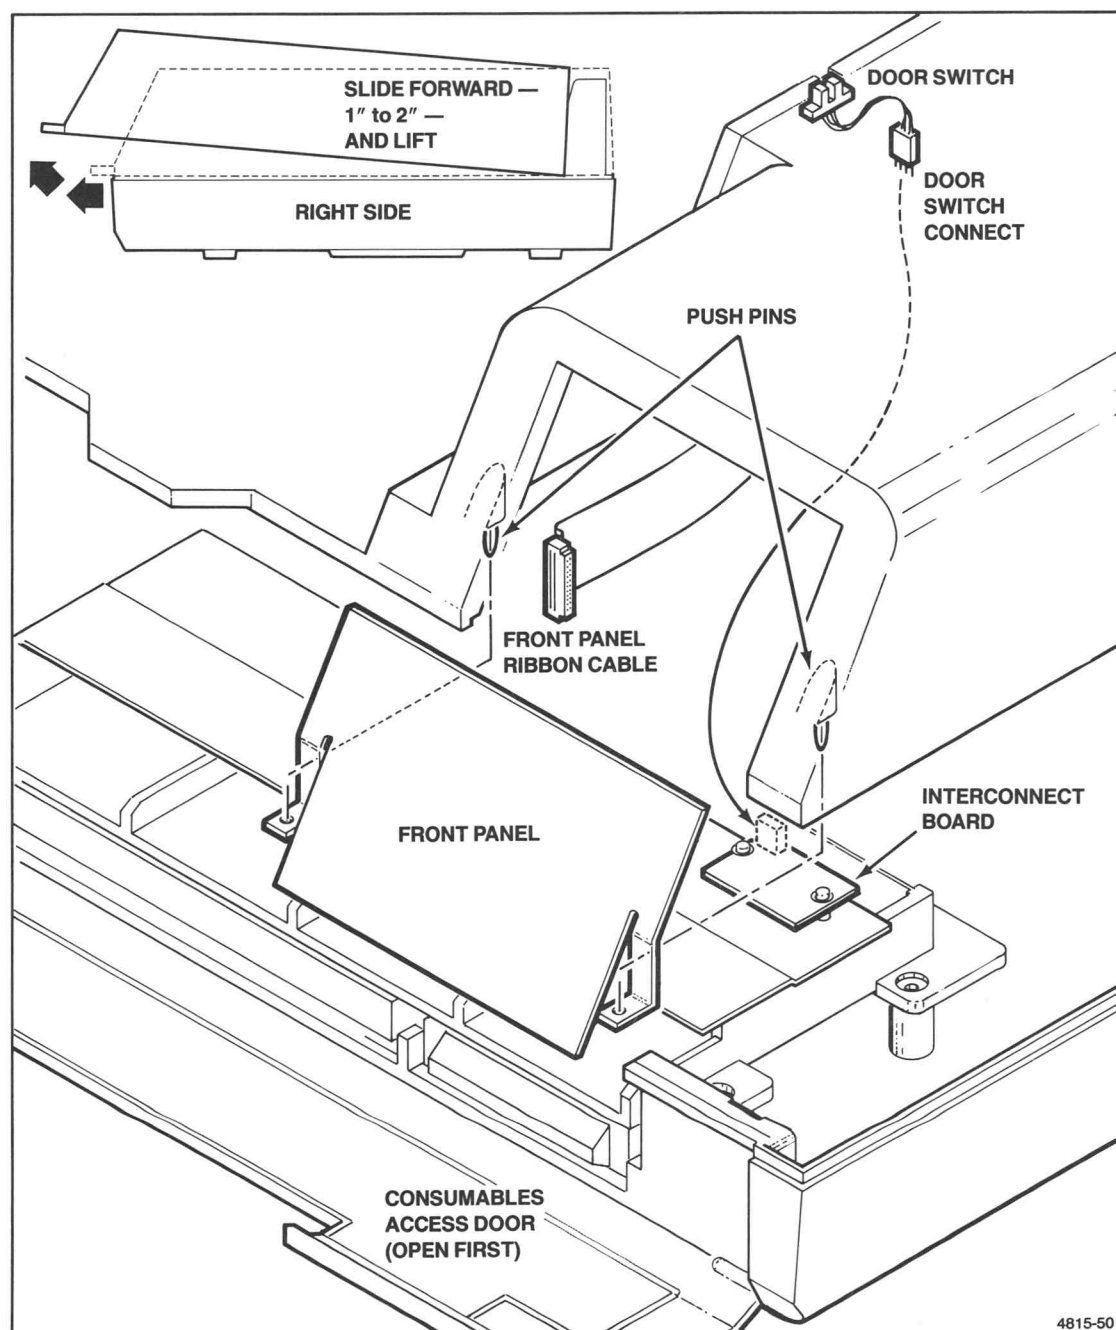

Figure 6-2. Removing the Top Cover.
6. Remove the top access door from the top cover, and disconnect the door switch cable — see Figure 6-2.